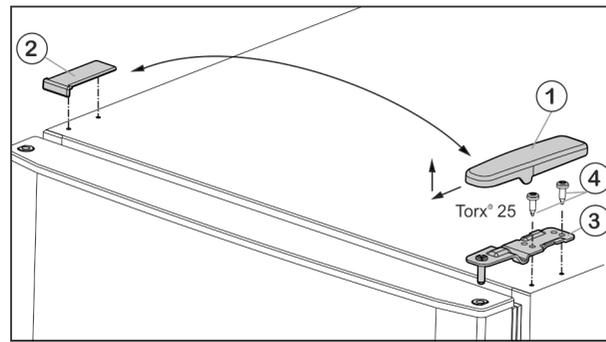

Fig. 5
- ▶ Pull off the cover Fig. 5 (1) forwards and upwards.
- ▶ Lift off the cover Fig. 5 (2).
- ▶ Unscrew the upper turn hinge Fig. 5 (3) (2x Torx® 25) Fig. 5 (4) and lift it off.
- ▶ Insert the upper turn hinge Fig. 5 (3) in the door on the new hinge side.
- ▶ Screw in the upper bearing block **tightly (with 4 Nm)** (2 x Torx® 25) Fig. 5 (4). Use a cordless screwdriver if necessary.
- ▶ Fit the cover Fig. 5 (1) on the opposite side by sliding it rearwards and latching it into place.
- ▶ Press the cover Fig. 5 (2) on the opposite side down into place until it latches.